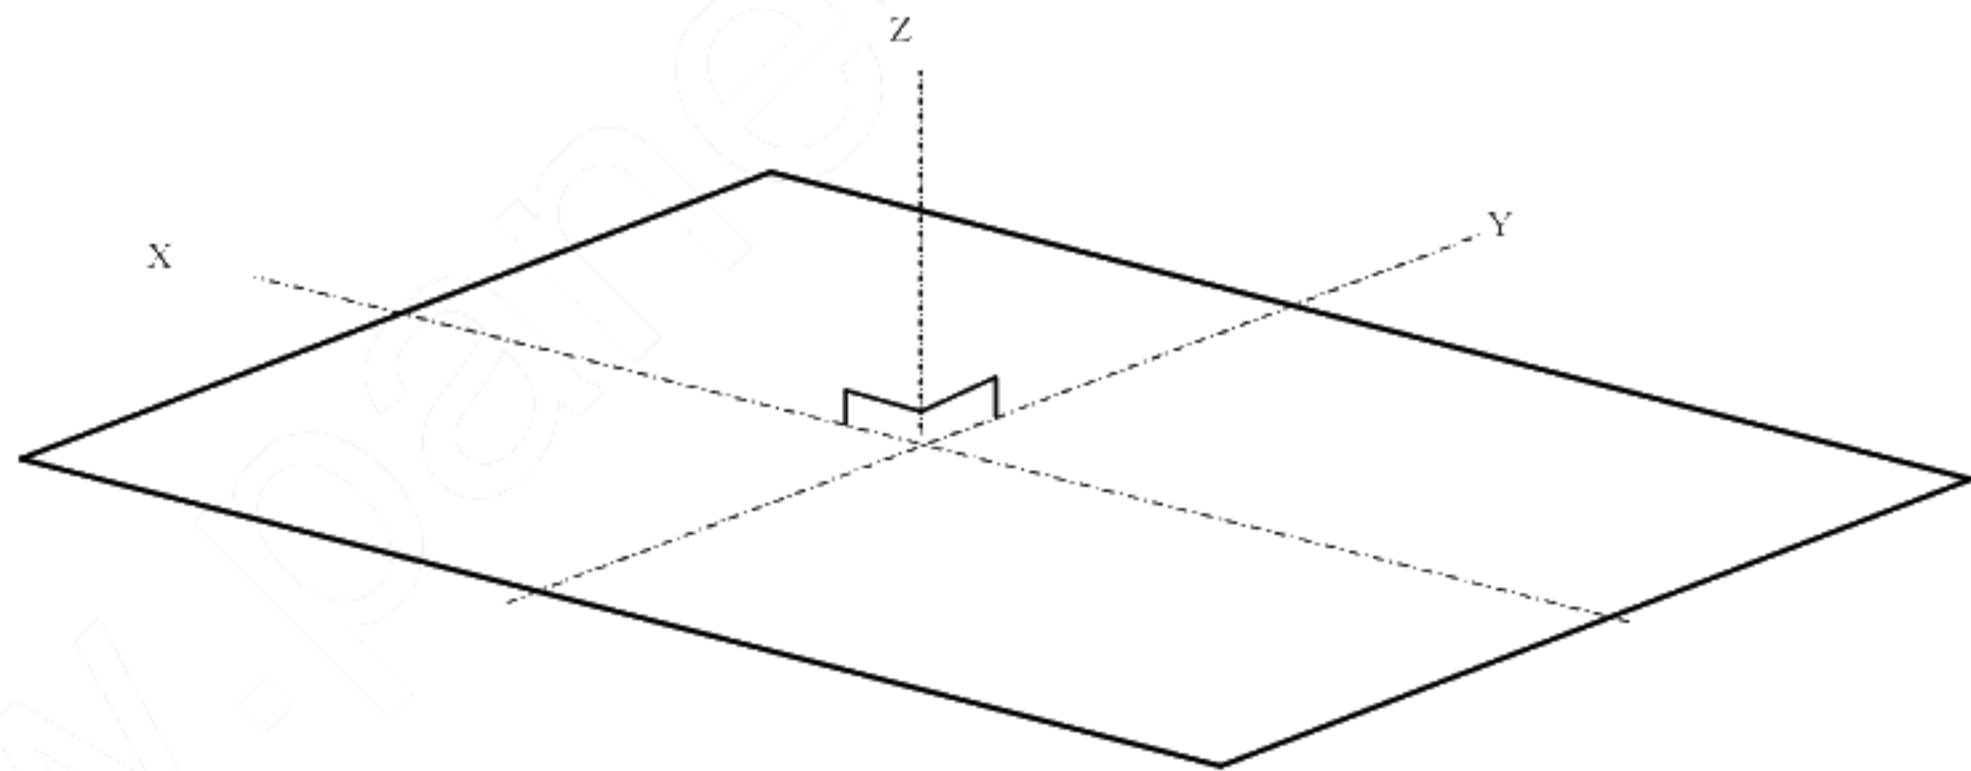

Fig.1. Outline Dimensions
Do not exist extreme defects. (See Fig. 1)
①Attached location of the label : See Fig. 1
②Indicated contents of the